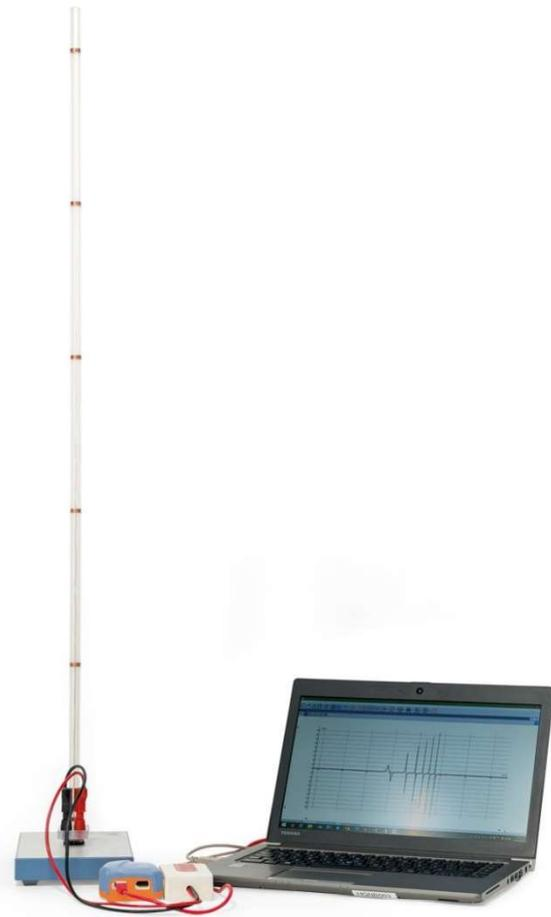

Fig. 1: Experiment set-up
- Set up the experiment as shown in fig. 1.